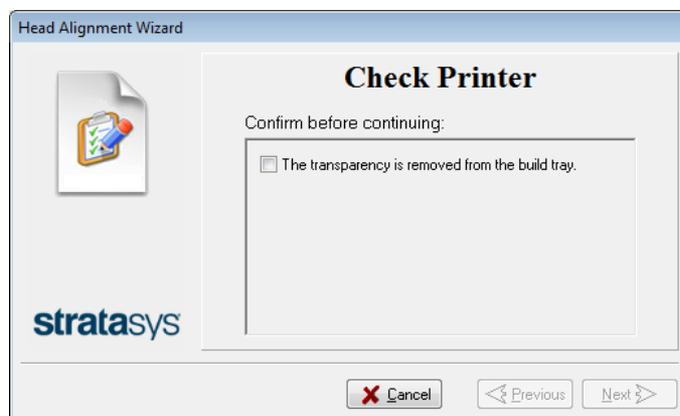

Figure 4-63 Head Alignment wizard—steps 7–9
- In the wizard screen shown in Figure 4-63, select the *Transparency removed* check box, and click **Next**.